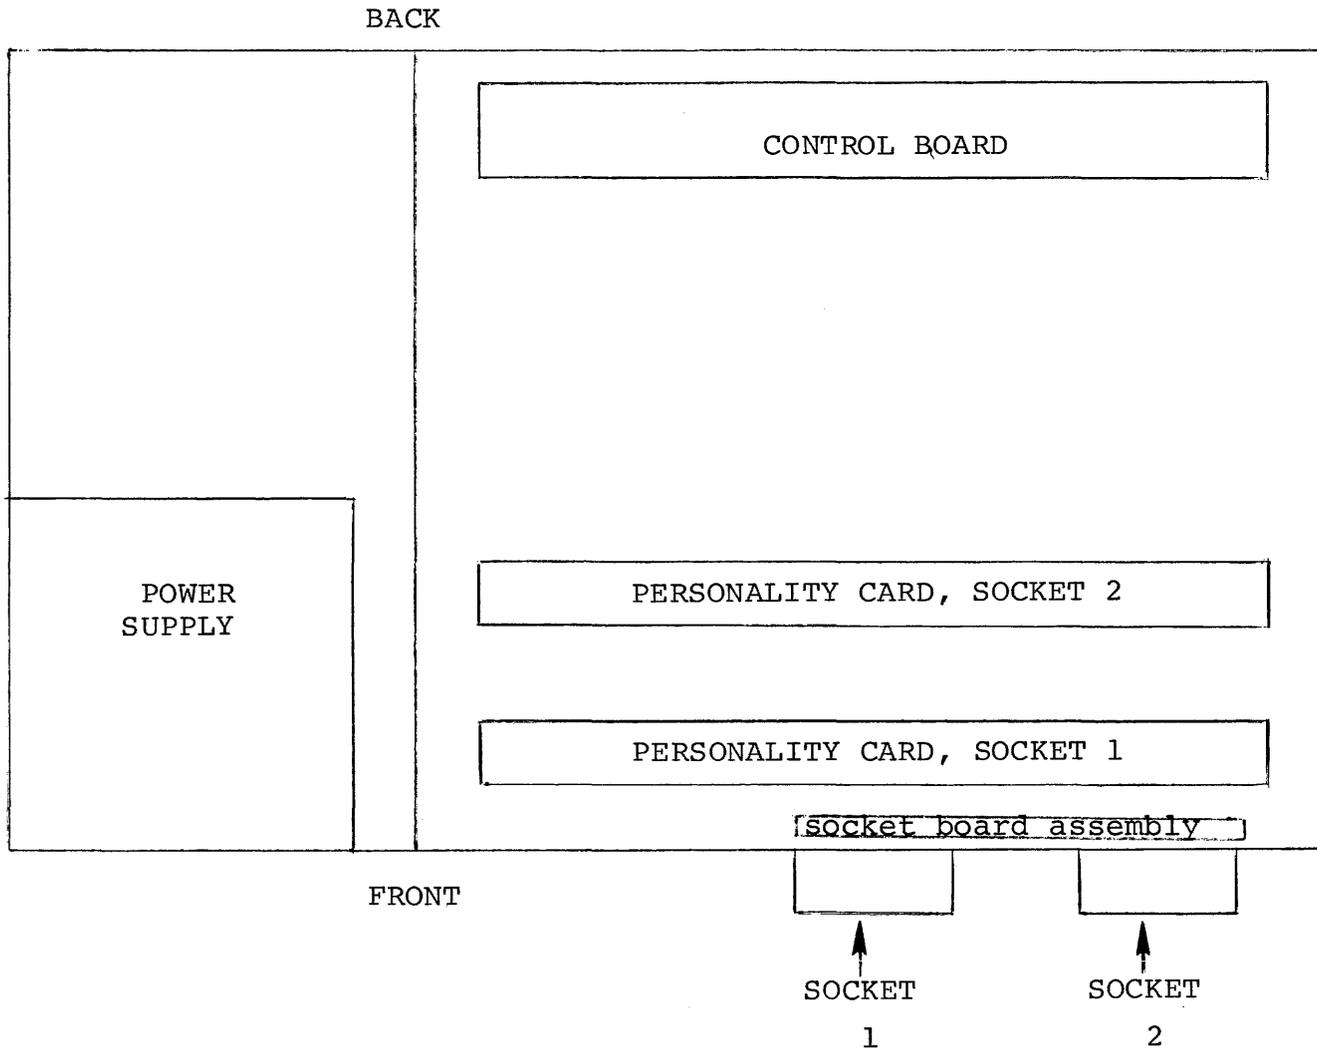

FIGURE 3-2
Figure 3-2 shows the PROM Programmer as viewed from the top, with the cover removed. Notice there are slots for three printed circuit cards. The Control Board is located near the rear of the PROM Programmer; it is not normally removed. The two slots near the front are for the personality cards. The slot nearest the front holds the personality card that controls Socket 1 (16-pin socket on MDS-UPP-501; 24-pin socket on MDS-UPP-502). The other slot holds the personality card that controls Socket 2 (the 24-pin socket). The step-by-step procedure for exchanging personality cards is given below.
- 5) Double check to be sure you placed the right card in the correct socket (see Figure 3-2). Mark the identification panel located under the socket on the front panel with the designation of the personality card you have just installed.
- 10) Replace the personality cards. Double check to be sure you placed the right card in the correct socket (see Figure 3-2).